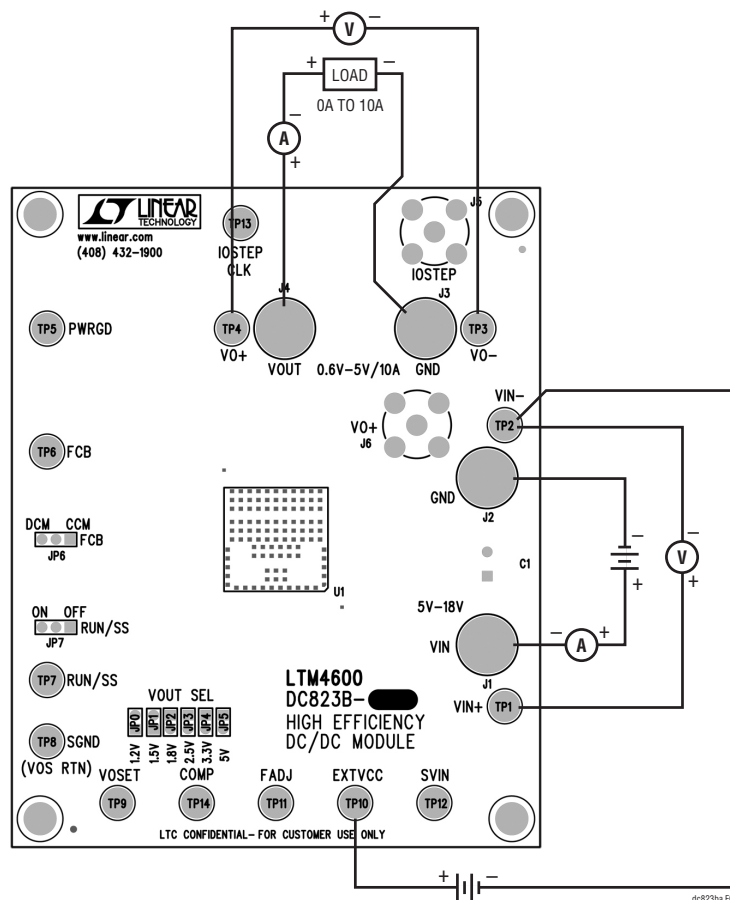

Figure 1. Test Set-Up of DC823B-A (EXTVCC V_{BIAS} Supply is Optional)
Demonstration circuit DC823B-A is an easy way to evaluate the performance of the LTM4600EV. Refer to Figure 1 for proper measurement equipment set-up and follow the procedure below:
2. With power off, connect the input power supply, load, optional 5V bias supply and meters as shown in Figure 1. Preset the load to 0A and V_{IN} supply to be less than 20V. The optional 5V bias supply applied to the EXTVCC pin must be off while the main V_{IN} is turned off.